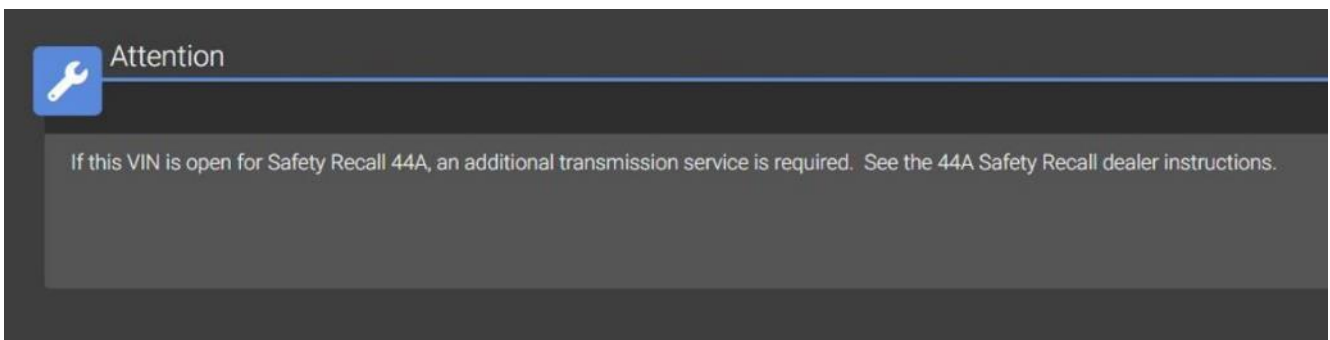

Figure 1 – wiTECH Popup Message
7. Did a wiTECH message pop-up appear stating "If this VIN is open for Safety Recall 44A, an additional transmission service is required. See the 44A Safety Recall dealer instructions."? (Figure 1)
15. Did a wiTECH message pop-up **previously** appear (**Step 7 Figure 1**) stating “**If this VIN is open for Safety Recall 44A, an additional transmission service is required. See the 44A Safety Recall dealer instructions.**”?